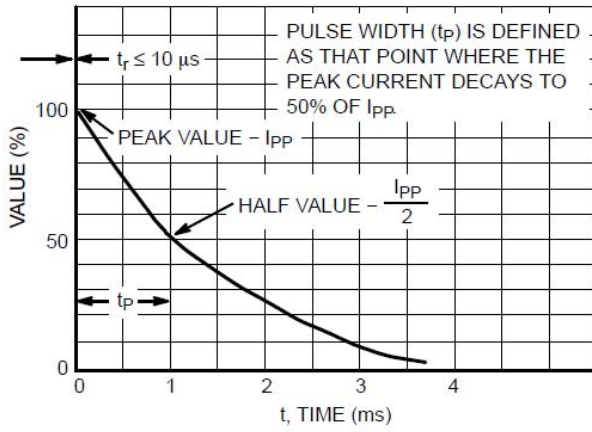

Figure 6. Pulse Waveform
- ◇ Peak power 24 or Watts @ 1.0ms (unidirectional) per Figure 6 Waveform
Note 1: Surge Current waveform per Figure 6